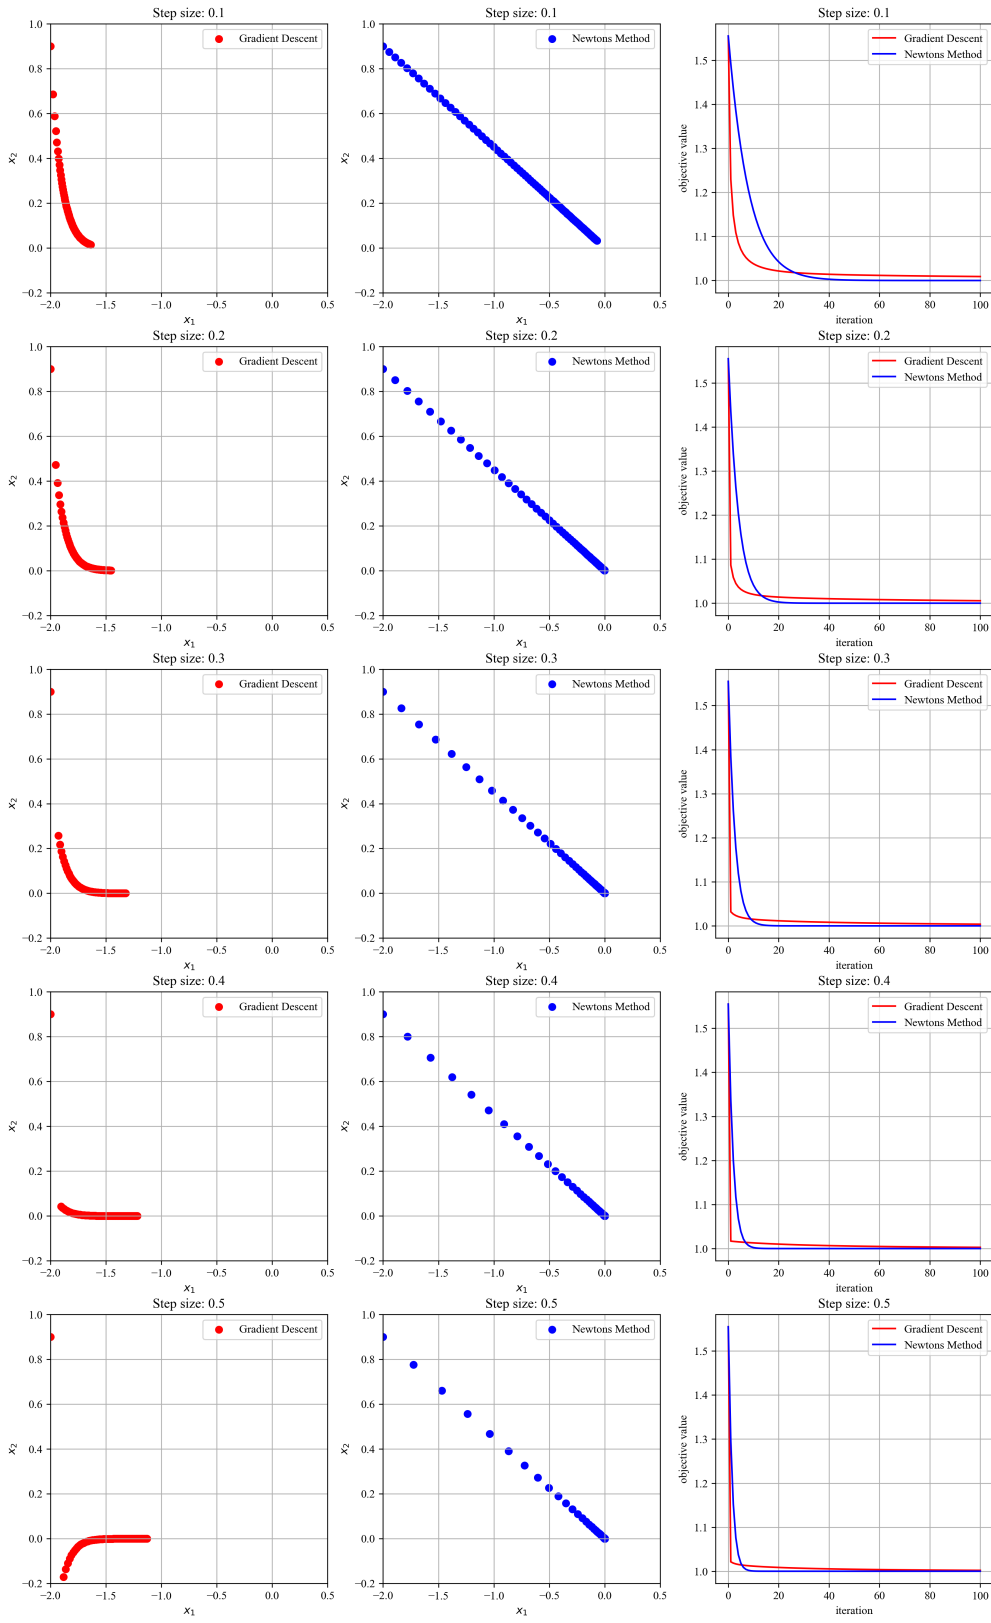
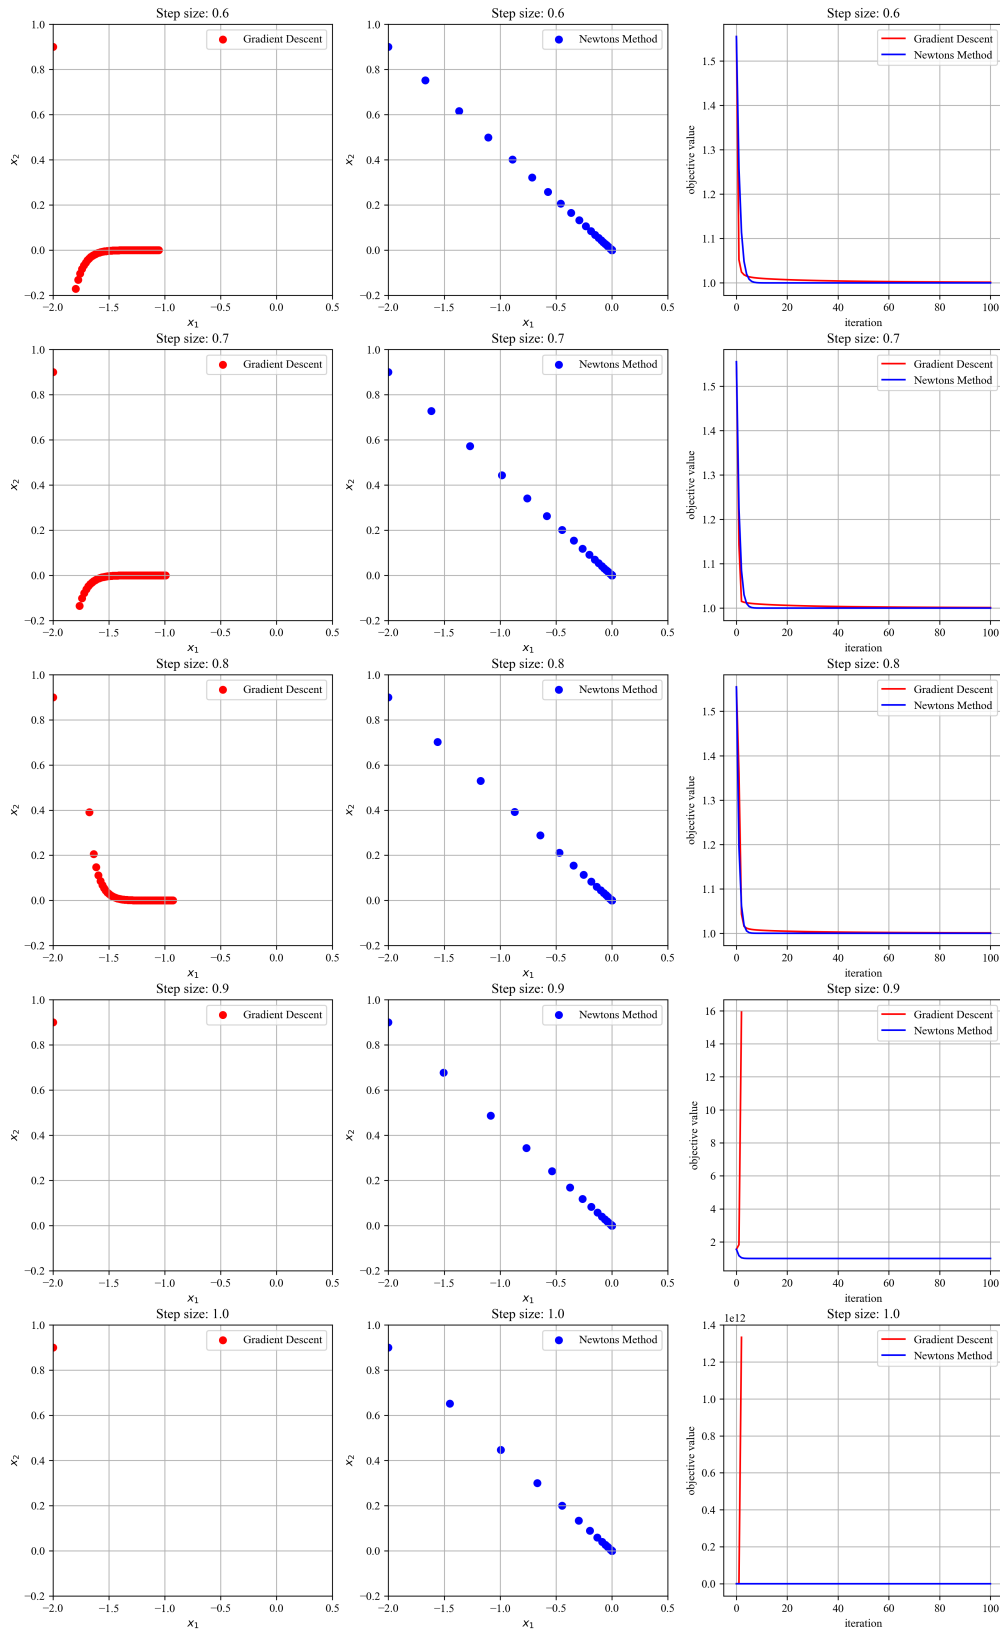

Figure 3: Step size (0.1 to 0.5) for the Gradient Decent and Newton's Method
Figure 4: Step size (0.6 to 1.0) for the Gradient Decent and Newton's Method
- (b) See Figure 3 and Figure 4 for details.